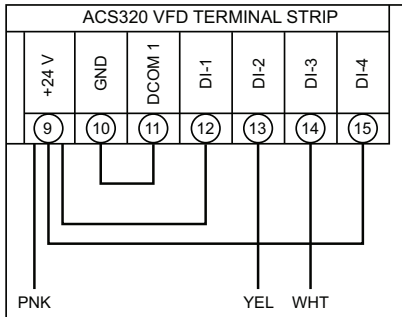

Fig. 28 — ACS320 VFD Wiring
- For ACS320 VFDs the voltage is sourced from the VFD at its terminal 9 (+24 V). SAV speed inputs are received at terminals 13 (DI-2) for low speed (40 Hz) motor operation and 14 (DI-3) for high speed (60 Hz) motor operation. See Table 12 and Fig. 28 (on page 21).